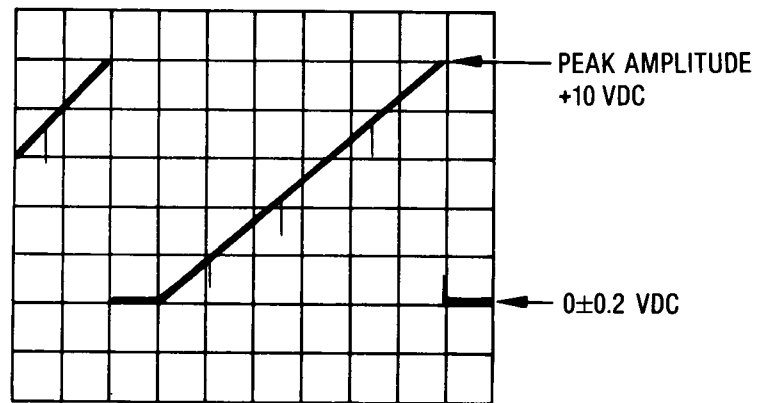

Figure 5-58. Sweep Out Waveform
8. Set the oscilloscope's trigger to channel 2 and set channel 2 vertical input for dc coupling. Adjust the oscilloscope for the display shown in Figure 5-58.